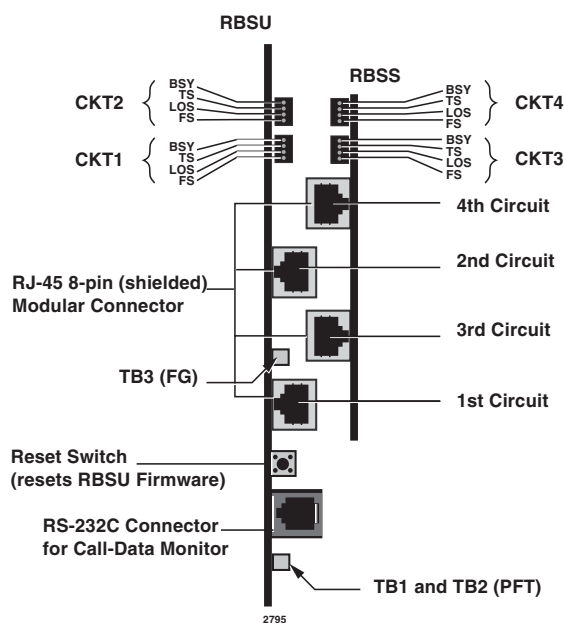
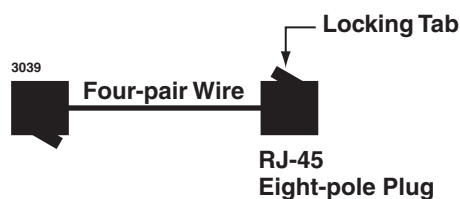

Figure 5-12 RBSU/RBSS Location of LEDs and Connector Locations
Figure 5-13 Modular ISDN Data Cable
After setting the switches and jumpers and installing the plug-on PCBs as described in the preceding paragraphs, the RBSU/RBSS PCBs can be installed in the appropriate cabinet slots. Refer to RBSU/RBSS Capacity and Cabinet Slot Information on Figure 5-13. After the RBSU/RBSS is installed in the Strata CTX cabinet, the status LEDs and connecting jacks are positioned as shown in Figure 5-12.
The RBSU/RBSS BRI circuit jack is a shielded RJ45 (8-pin modular) with Transmit (Tx) and Receive (Rx) pin numbers as shown in Figure 5-12. The Tx and Rx pin numbers change when the BRI circuit is configured with RBSU/RBSS option switches for TE or NT (Tables 5-3 and 5-12). If the R40S is installed on the RBSU, the PS-1 voltage is carried on the Tx/Rx wires with polarity. (See Table 5-5).
The position of the RBSU/RBSS circuit jacks are shown in Figure 5-13 and 5-12 respectively.
jack pin configuration and communication parameters are the same as RPTU (see Figures 5-21, 5-24 and 5-25). For RBSU monitor jacks, see Figure 5-23 and Figure 5-12 on page 5-15.)
TB3 is a screw terminal that can be used to connect a ground wire to the RBSU PCB (see Figure 5-12 for the location). This ground enables the RBSU/RBSS to meet Electro Magnetic Compatibility (EU) requirements. The RBSU complies with EU requirements without grounding TB3 on the RBSU, so it is not necessary to connect a ground wire to TB3.
will have the locking tab of the plug on one end, “up;” and on the other end, “down,” as shown in Figure 5-13.